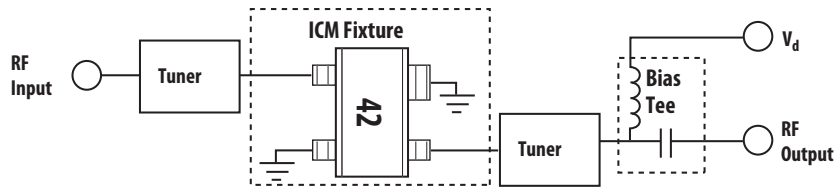
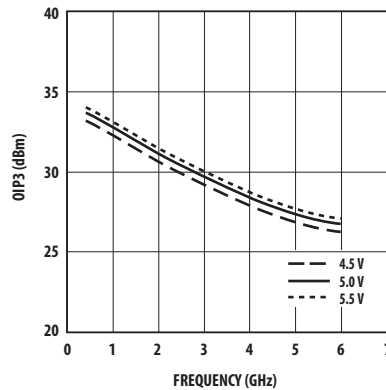
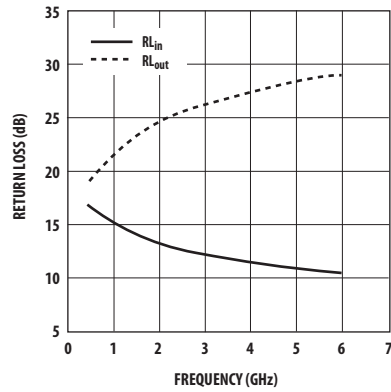
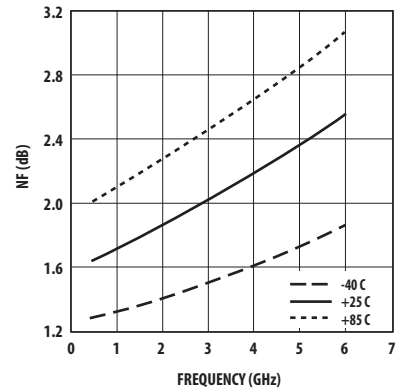

Figure 2. Test Circuit for S, Noise, and Power Parameters over Frequency.
Figure 7. Output Third Order Intercept Point vs. Frequency and Voltage^[2].
Figure 9. Return Losses at each Narrow Band Tuning.
Figure 11. Noise Figure vs. Frequency and Temperature.
See Figure 7 in the Applications section for an equivalent schematic of 1.9 GHz circuit; Figure 11 in the Applications section for 900 MHz circuit.
2. Tuners on input and output were set for narrow band tuning designed to optimize NF and OIP3 while keeping VSWRs better than 2:1. See Figure 9 for corresponding return losses at each frequency band.
All data reported from Figures 7 through 17 using test setup described in Figure 2. Tuners on input and output were set for narrow band tuning designed to optimize NF and OIP3 while keeping VSWRs better than 2:1. See Figure 9 for corresponding return losses at each frequency band.